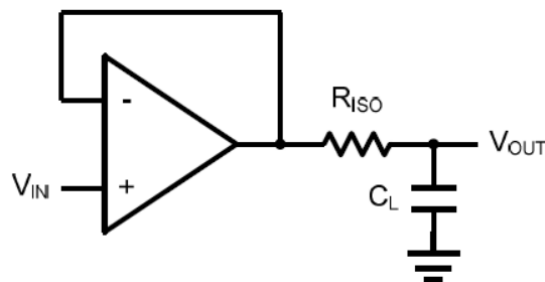
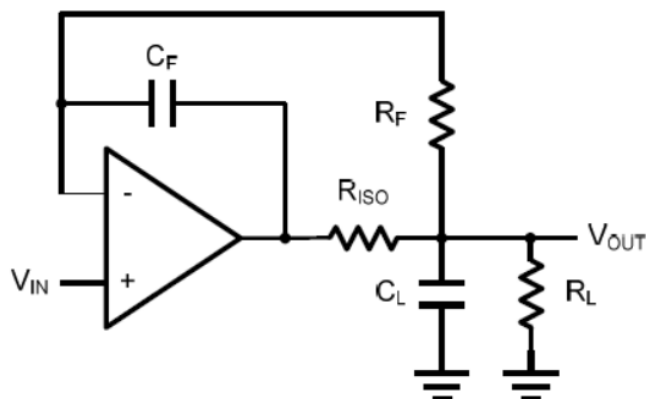

Figure 1. Indirectly Driving a Capacitive Load Using Isolation Resistor
Figure 2. Indirectly Driving a Capacitive Load with DC Accuracy
The AO321V is optimized for bandwidth and speed, not for driving capacitive loads. Output capacitance will create a pole in the amplifier's feedback path, leading to excessive peaking and potential oscillation. If dealing with load capacitance is a requirement of the application, the two strategies to consider are (1) using a small resistor in series with the amplifier's output and the load capacitance and (2) reducing the bandwidth of the amplifier's feedback loop by increasing the overall noise gain. Figure 1. shows a unity gain follower using the series resistor strategy. The resistor isolates the output from the capacitance and, more importantly, creates a zero in the feedback path that compensates for the pole created by the output capacitance.
The circuit in Figure 2 is an improvement to the one in Figure 1.  $R_F$  provides the DC accuracy by feed-forward the  $V_{IN}$  to  $R_L$ .  $C_F$  and  $R_{ISO}$  serve to counteract the loss of phase margin by feeding the high frequency component of the output signal back to the amplifier's inverting input, thereby preserving the phase margin in the overall feedback loop. Capacitive drive can be increased by increasing the value of  $C_F$ . This in turn will slow down the pulse response.